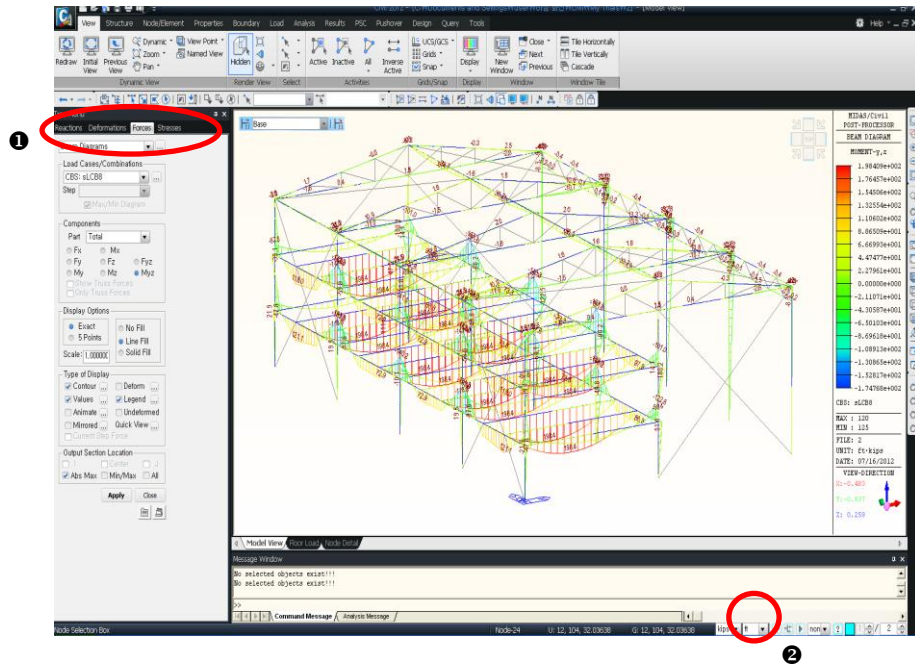

Figure 2.32 Bending Moment Diagram of the Total Model
2. Select **Forces** in the post-processing functions tab (Fig.2.32–①).
9. Change the unit from ‘in’ to ‘ft’ (Fig.2.32–②).
If there are many elements as is the case shown in Fig.2.32, the verification of bending moments from the diagram becomes next to impossible. In such a case use  **Select Plane** to selectively *activate* only the plane of interest.